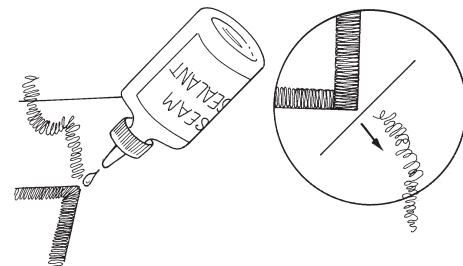

Fig. 21-9
3. When all edges are complete, secure the corner threads with seam sealant. Clip the thread ends when the seam sealant is dry. (Fig. 21-9)